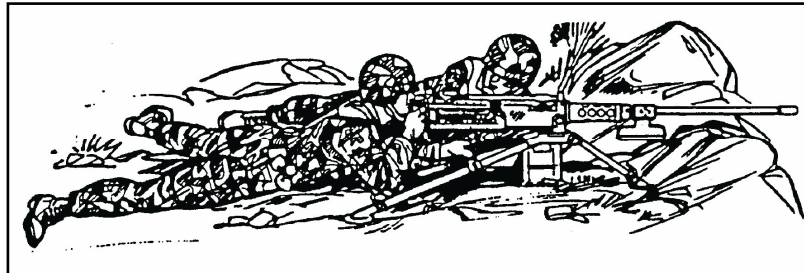

Figure 071-313-3454-1. Prone position (tripod mount)
- a. Prone position (figure 071-313-3454-1).
- b. Sitting position (figure 071-313-3454-2).